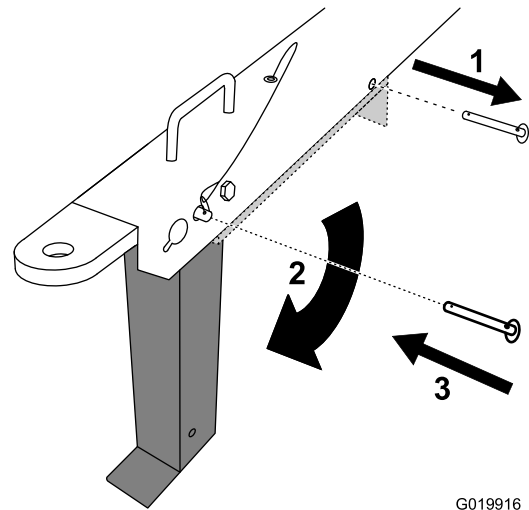

Figure 31
6. Pull the clevis pin out from the front stabilizer leg and the tongue (Figure 31).
7. Rotate the front stabilizer leg down toward the ground (Figure 31).
8. Push the clevis pin through the front hole in the tongue and the front stabilizer leg (Figure 31), and carefully lower the machine to the ground.